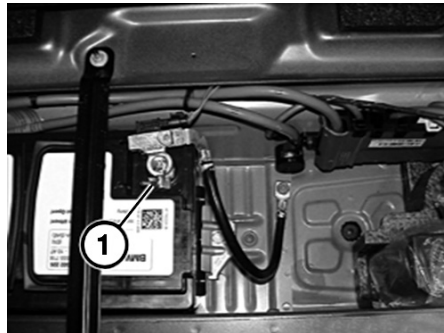

Fig. 1 Battery ground cable removal
2. Loosen nut (1) and pull off battery ground cable with IBS in an upward direction, place to one side and secure, **Fig. 1**.
7. Connect battery ground cable with IBS and **torque** nut (1) to 44 inch lbs., **Fig. 1**.